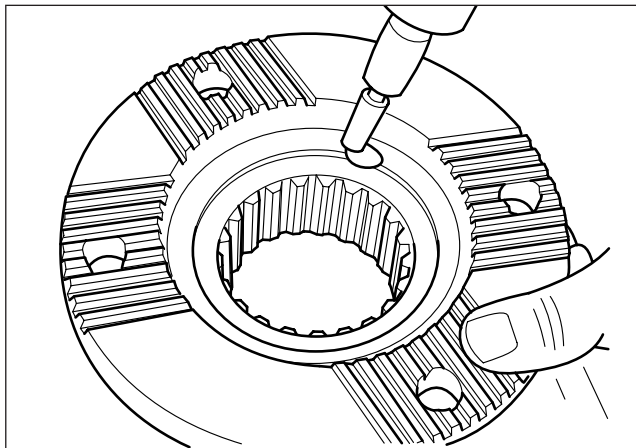

Fig. 2.60
1. Remove any burrs found on flange with the aid of a small ball nosed grinding wheel. (Fig. 2.60)